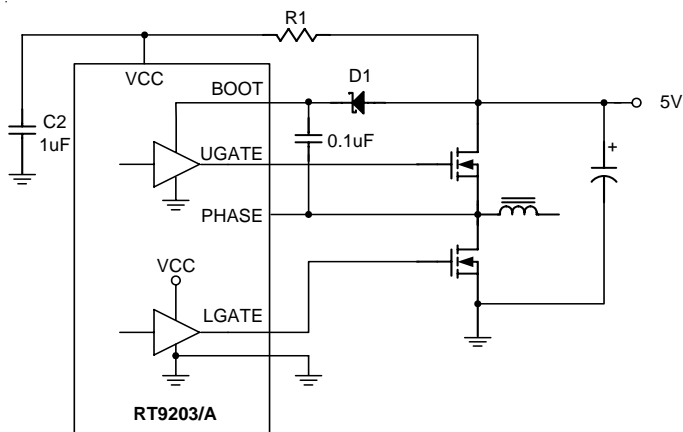

Figure 3. Single 5V power Supply Operation
In a single power supply system, the UGATE driver of RT9203/A is powered by an external bootstrap circuit, as shown in the Figure 3. The boot capacitor, CBOOT, generates a floating reference at the PHASE pin. Typically a 0.1μF CBOOT is enough for most of MOSFETs used with the RT9203/A. The voltage drop between BOOT and PHASE is refreshed to a voltage of VCC - diode drop (VD) while the lower MOSFET turning on.